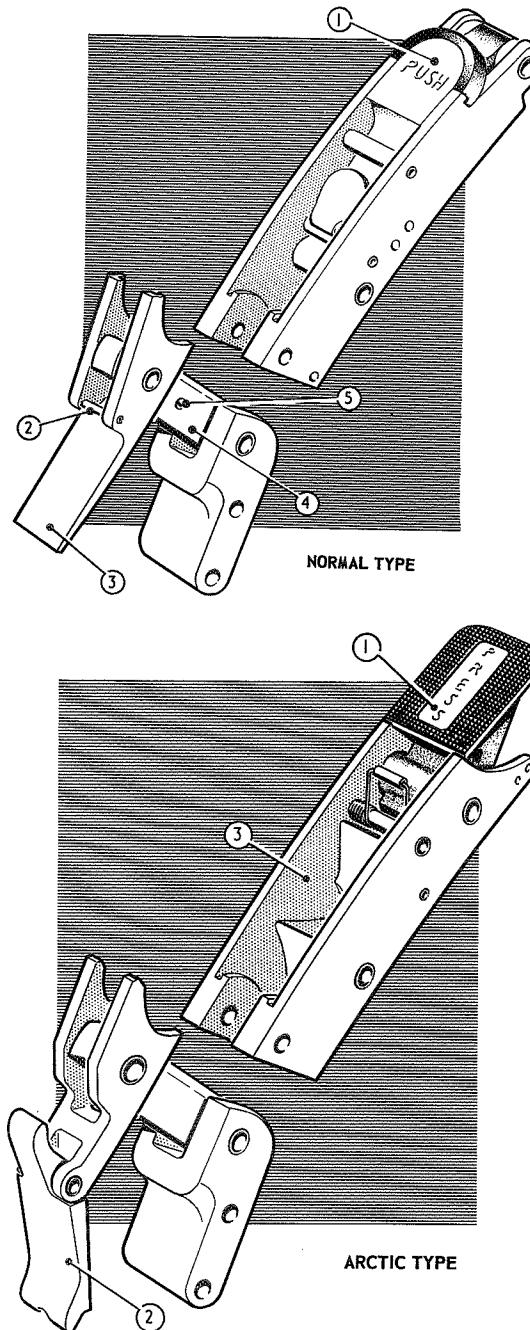

Fig. 4 Toggle fasteners
7. Certain removable panels are secured in position by toggle fasteners (fig. 4). To open these fasteners, the catch lever (1) marked PUSH is depressed with the forefinger (*do not use tools*) causing the hook integral with this lever to disengage from pin (2) in the toggle lever (3), withdrawing it from the housing and disengaging the fastener. For re-engagement, the hooks on the end of the toggle lever are engaged in the recess and the lever pressed home with the palm of the hand. Adjustment is accomplished by screwing up or unscrewing the links (4), after first slackening off the grub screw (5) in the side face of the links. One turn of the thread on the links gives 0.036 in. of adjustment, and the total adjustment available is 0.5 in. When adjustment is satisfactory, the grub screw must be re-tightened.
8. Certain access doors are secured by Arctic type toggle fasteners (fig. 4). To open these fasteners, the knurled safety catch plate (1) is depressed and the lever (2) ejected sufficiently to enable it to be easily withdrawn from the housing (3). For re-engagement, the lever is engaged with the housing and then pressed home with the palm of the hand. Adjustment is accomplished by removing the split pin and then screwing up or unscrewing the links. One turn of the thread on the links gives 0.036 in., adjustment available is 0.5 in. When adjustment is satisfactory, lock with a split pin.